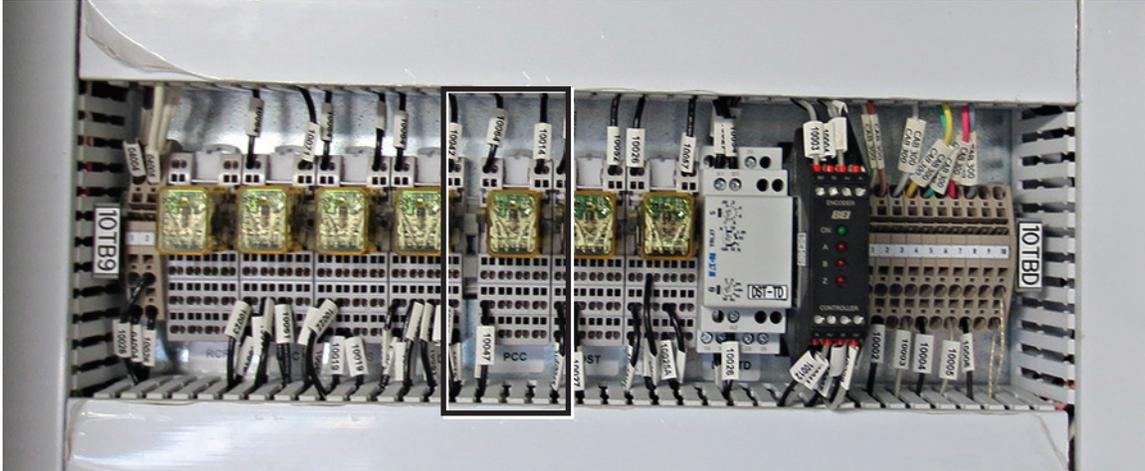

Figure 4: Replacing PCC Relay with Time Delay Relay
4. Replace the PCC relay with a time delay relay Eaton TRL27 (Canrig P/N: E15361), see Figure 4 on page 5.